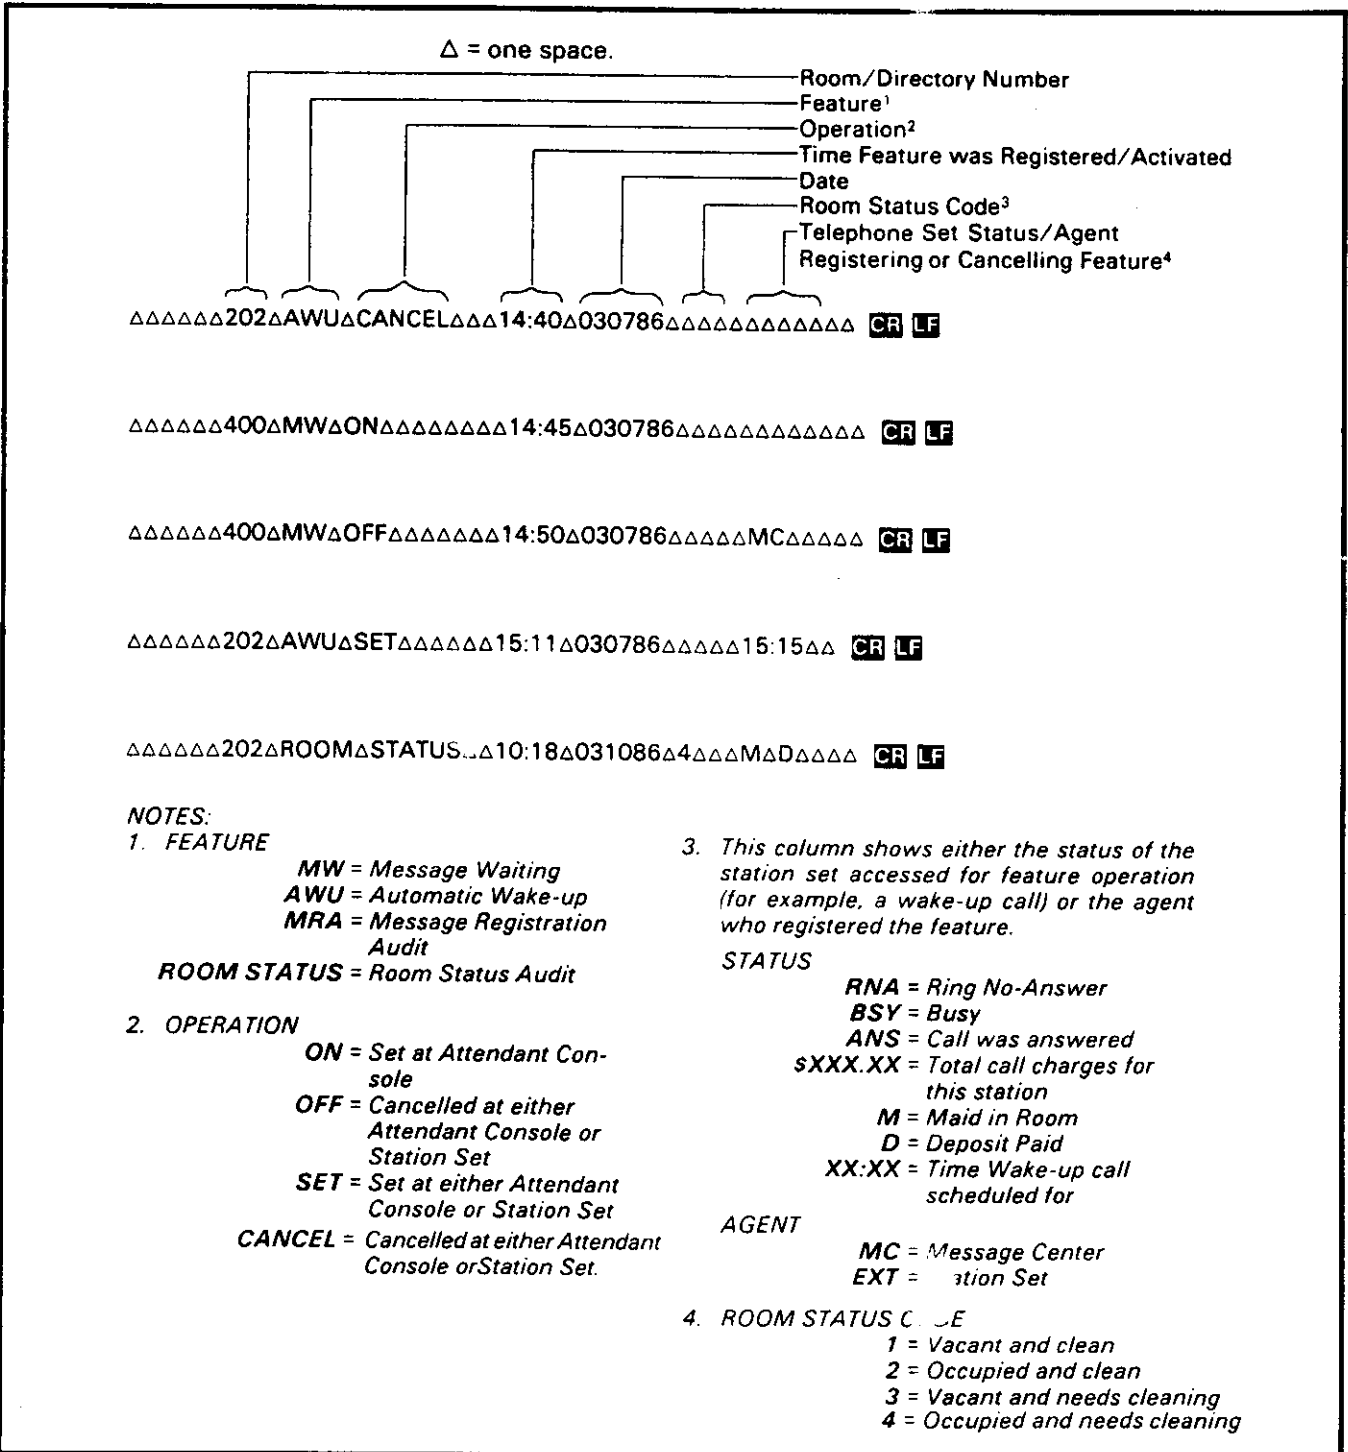

FIGURE 53—EXAMPLE: AUDIT PRINTOUT (Lodging/Health Care)
13.86 Figure 53 shows a typical Lodging/Health Care audit printout. Notes on the figure explain each column on the printout and the possible values for each column.